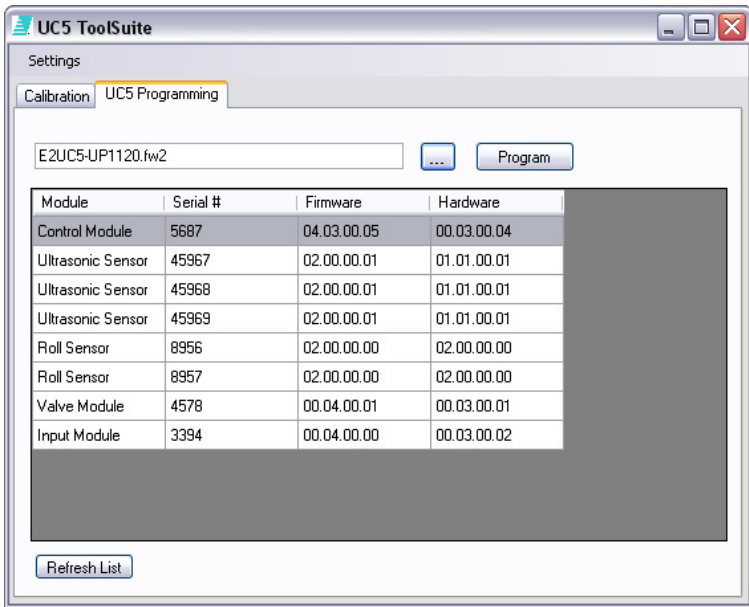

Figure 21: Toolsuite UC5 Programming Window
3. A list of connected UC5 devices will be displayed. If the list is not displayed, click the "Refresh List" button (Figure 21).
4. Using the "..." button, browse for the programming file ending in **.fw2**. Select the "Program" button (Figure 21).